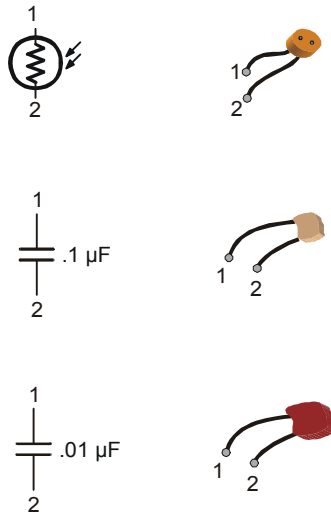

Figure 5-1: Photoresistor and Capacitor Circuit Symbols and Parts
Figure 5-1 shows the capacitors and photoresistor used in this experiment along with their schematic symbols. Both capacitors are nonpolar, meaning that terminals 1 and 2 as shown may be swapped without affecting the circuit. In addition to the capacitors, you'll also need two (2) 220 ohm resistors (color code red, red, brown).